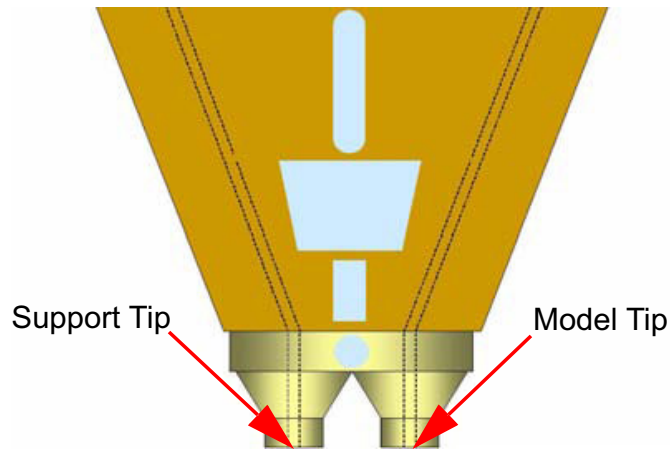

Figure 13: Close-up of extrusion tips
10. Watch the extrusion tips (see Figure 13 on page 39) to see if material extrudes (purges) after loading. The panel will then display **Did Material Purge?**